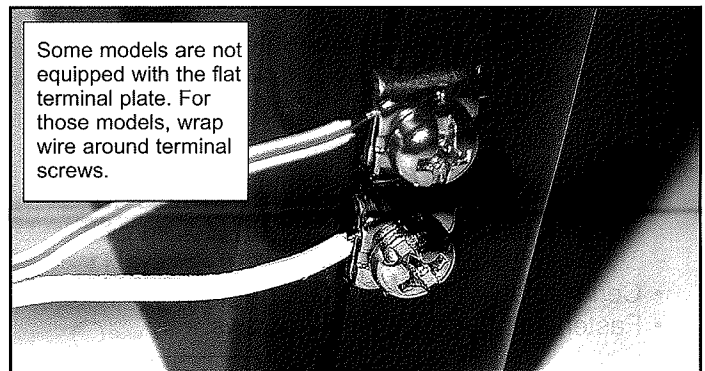

FIG. 6 Terminal attachments at STB
- > Insert wire under flat plate and tighten screw. (It does not matter which wire, white or striped, goes on which terminal)(Fig. 6).